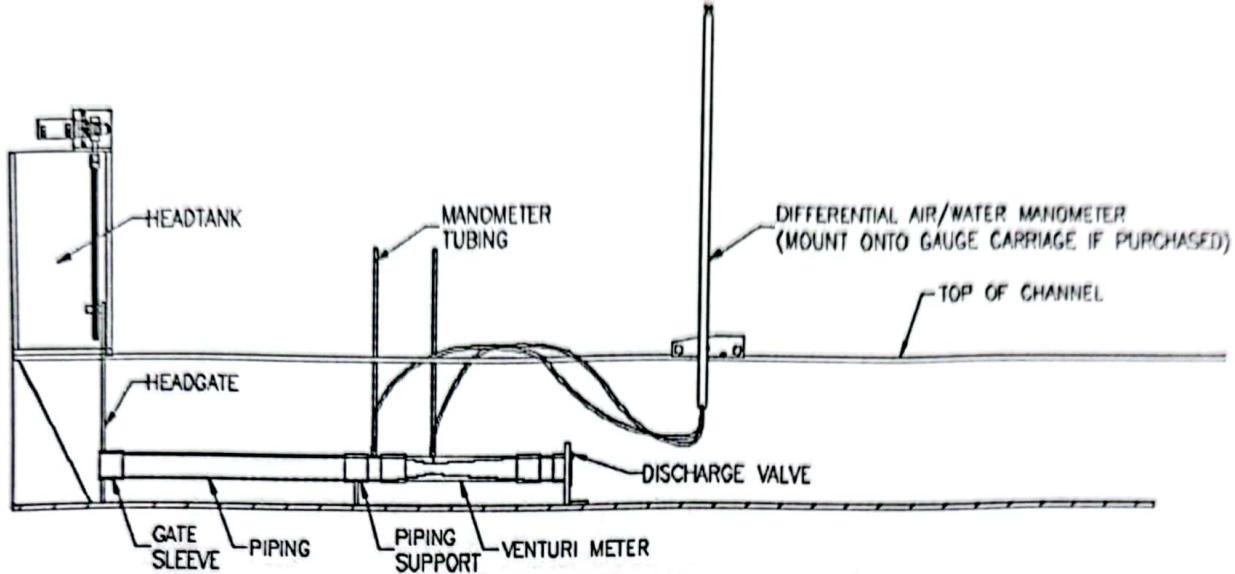

Figure 2: Venturi Meter Model Installation Diagram
1. Initial settings (Fig. 2):
2. Install pipe segment, pipe support, venturi and discharge valve into headgate sleeve and onto channel floor. Secure the discharge valve to the channel floor using two (2) #10-24UNC-2A x 0.625" long Round Head Machine Screws (RHMS). Engage all o-rings at pipe connections. Open the venturi discharge valve fully.